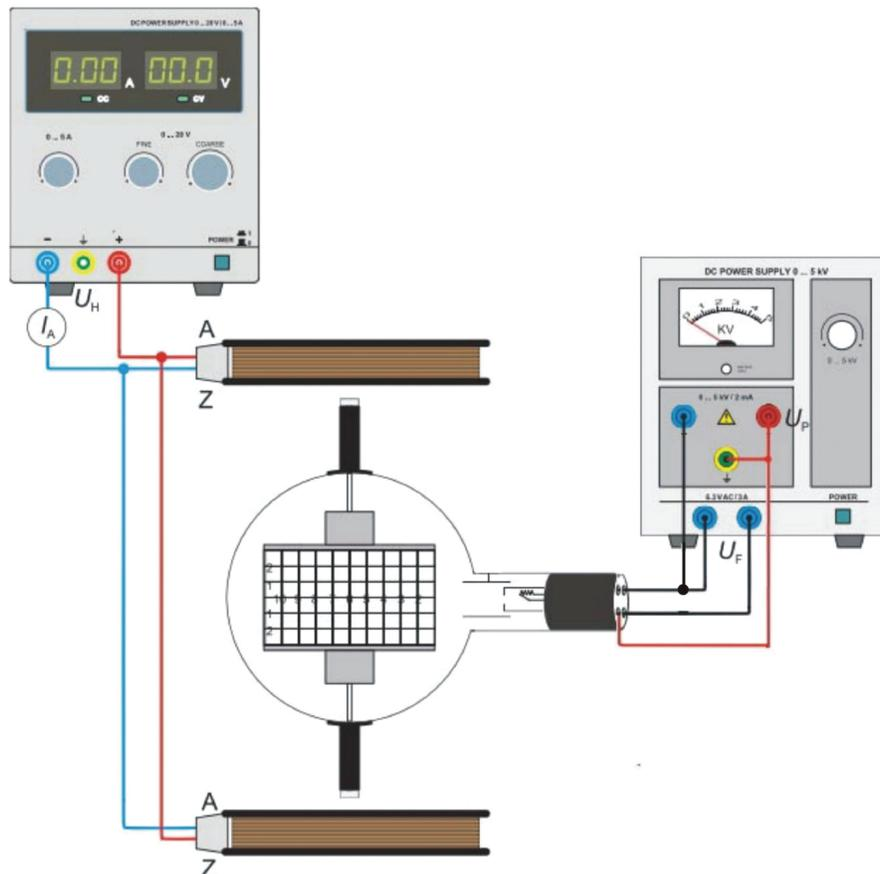

Fig.2 Magnetic deflection
- Set up the tube as in Fig. 2. Connect the anode, the cathode and the filaments to high voltage power supply with test leads.
- Set up the experiment as in Fig 2.